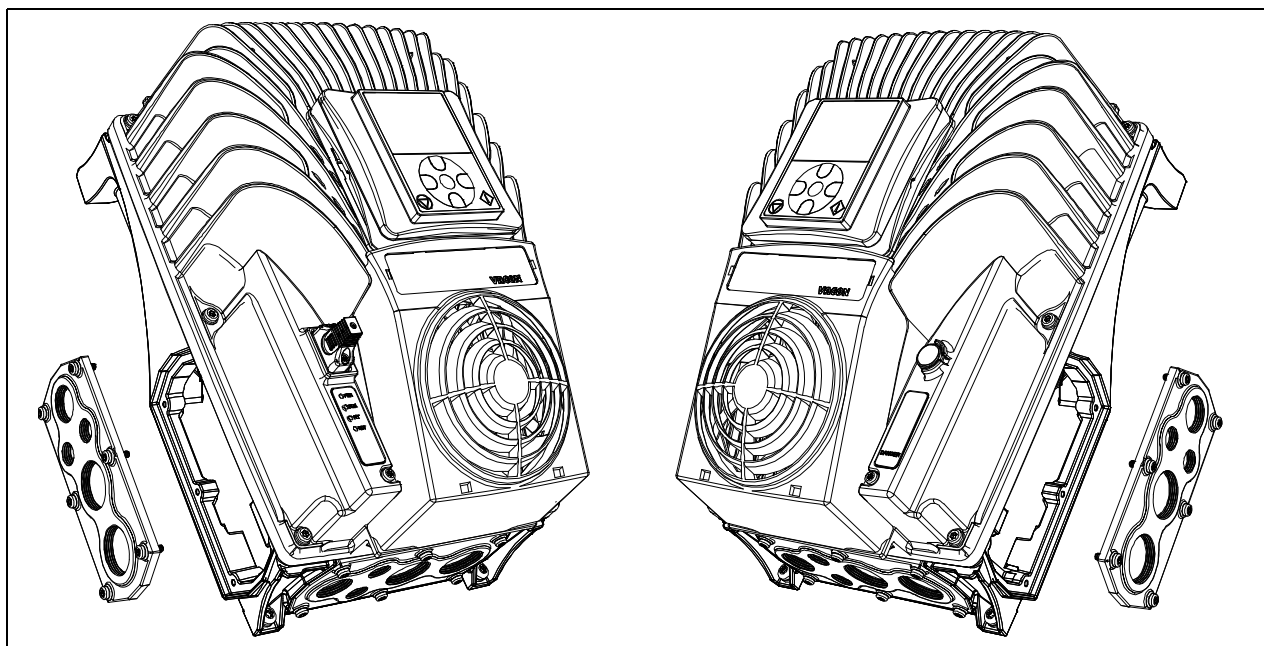

Figure 44. Disconnect the cable entry plate: example for MM5.
- Remove the cable entry plate from the drive on the left-hand-side if the mains switch must be mounted on this side. Otherwise remove the cable entry plate from the right-hand-side. See the Figure 44.